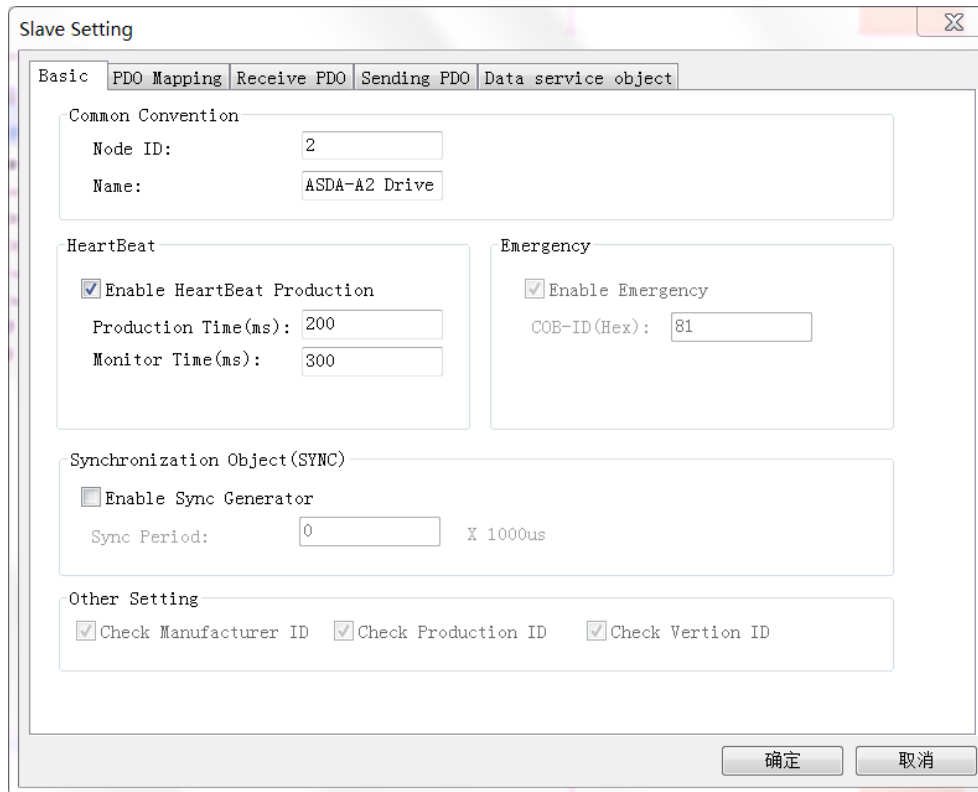

Figure 7-4
- 5) Modify the “Node number”, “configuration heartbeat time” and “monitoring time” as Figure 7-4 shows